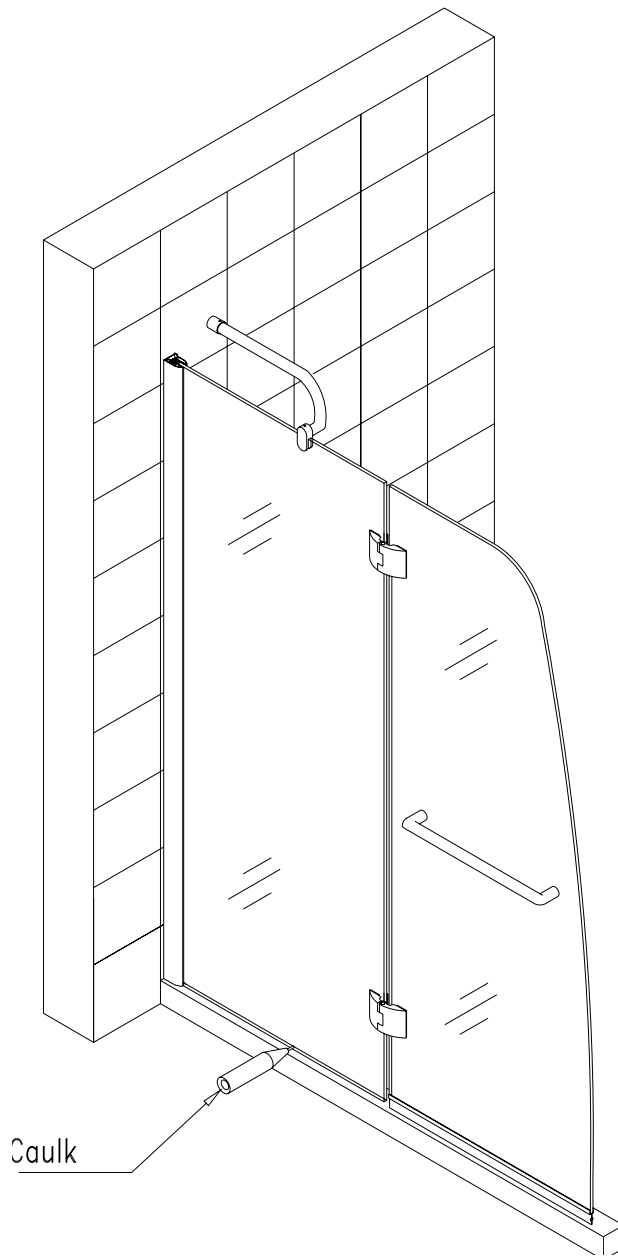

Fig 7
6. Apply caulk along the bottom of the stationary glass (fig 7).